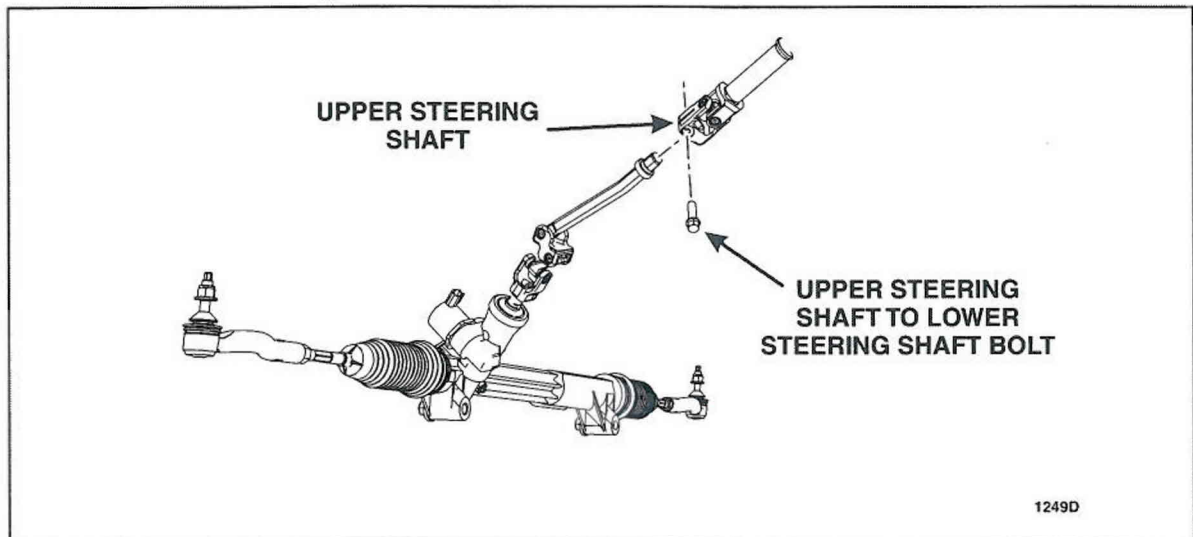

FIGURE 3
4. If not done previously, remove and discard the upper steering shaft to lower steering shaft bolt and remove the upper steering shaft. See Figure 3.